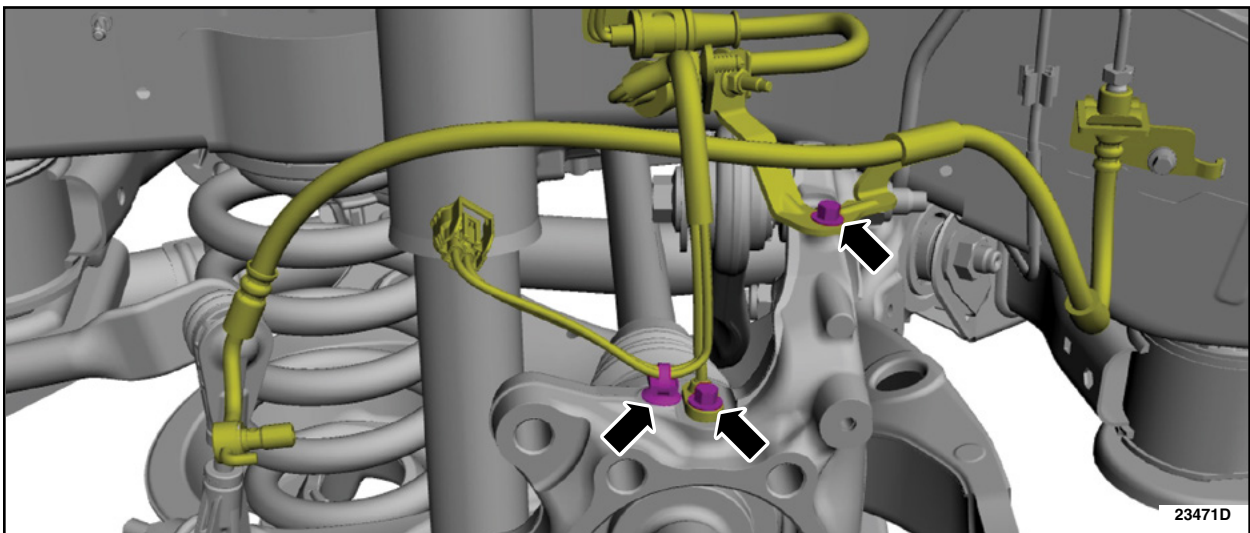

FIGURE 4
8. Remove the **LH rear** wheel speed sensor bolt and position the wheel speed sensor aside. Then, remove the brake hose bracket bolt and position the brake hose bracket aside. See Figure 4.